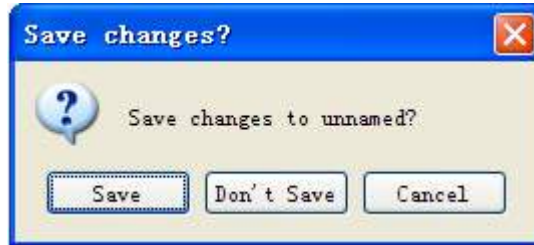
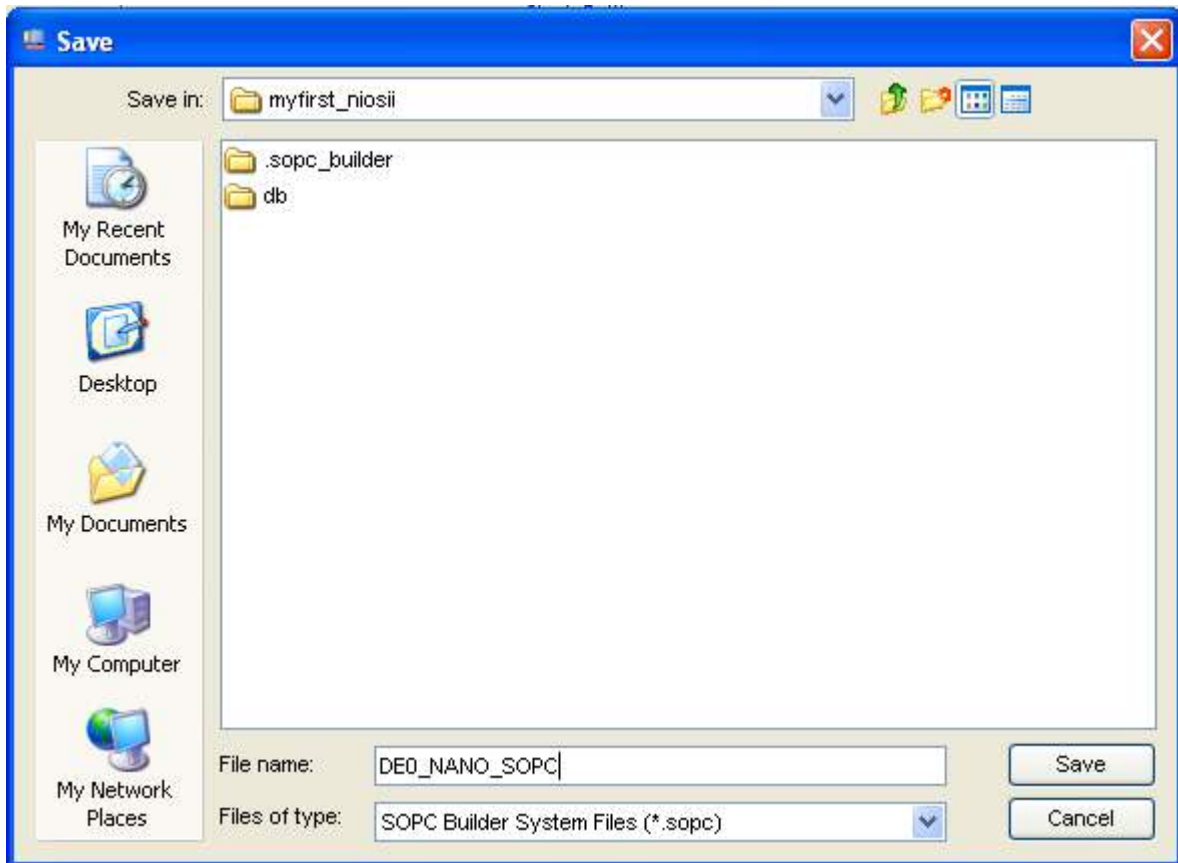
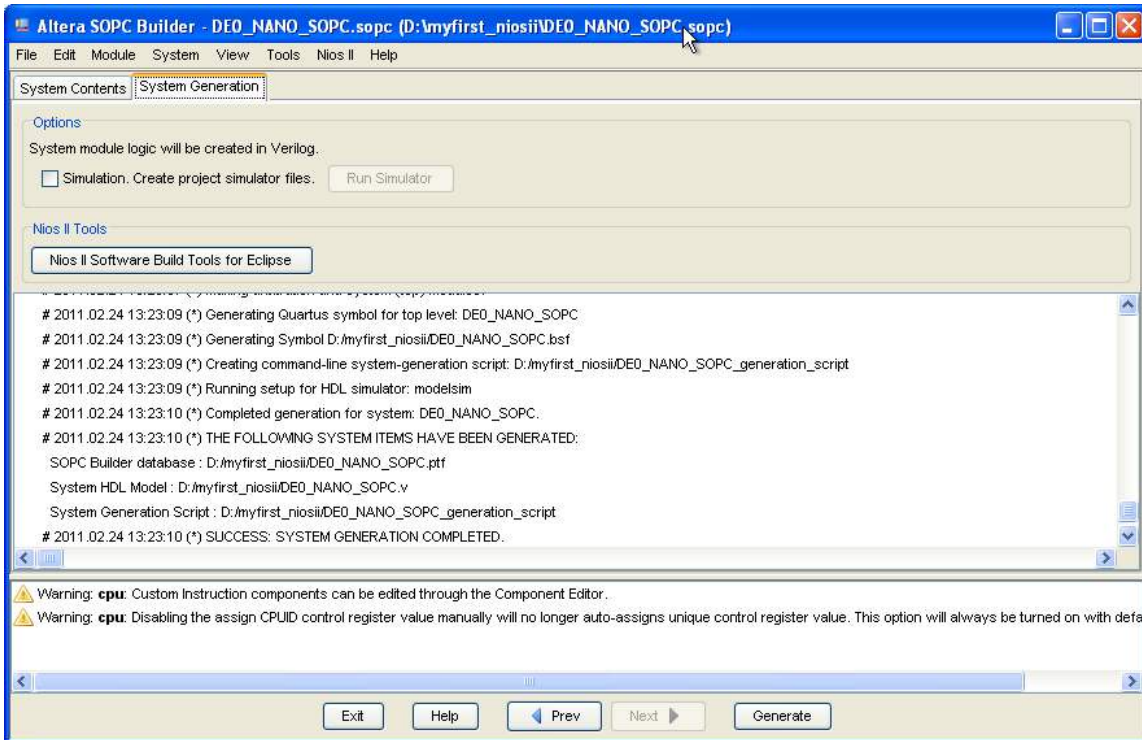

Figure 7-36 Generate SOPC
Figure 7-37 Generate SOPC
Figure 7-38 SOPC Builder generation successful
23. Click the Generate button, which will pop up a window, as shown in **Figure 7-36**. Click Save, which bring up the window in **Figure 7-37**. Input the name, **DE0_NANO_SOPC**, and click the save button. The compilation will automatically start. If there are no errors in the generation, the window will show a message of success, as shown in **Figure 7-38**.